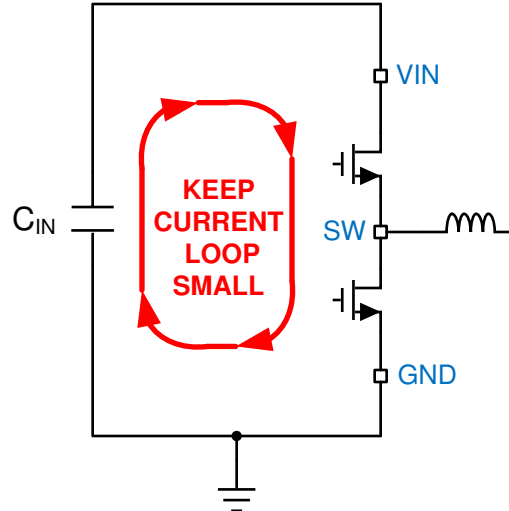
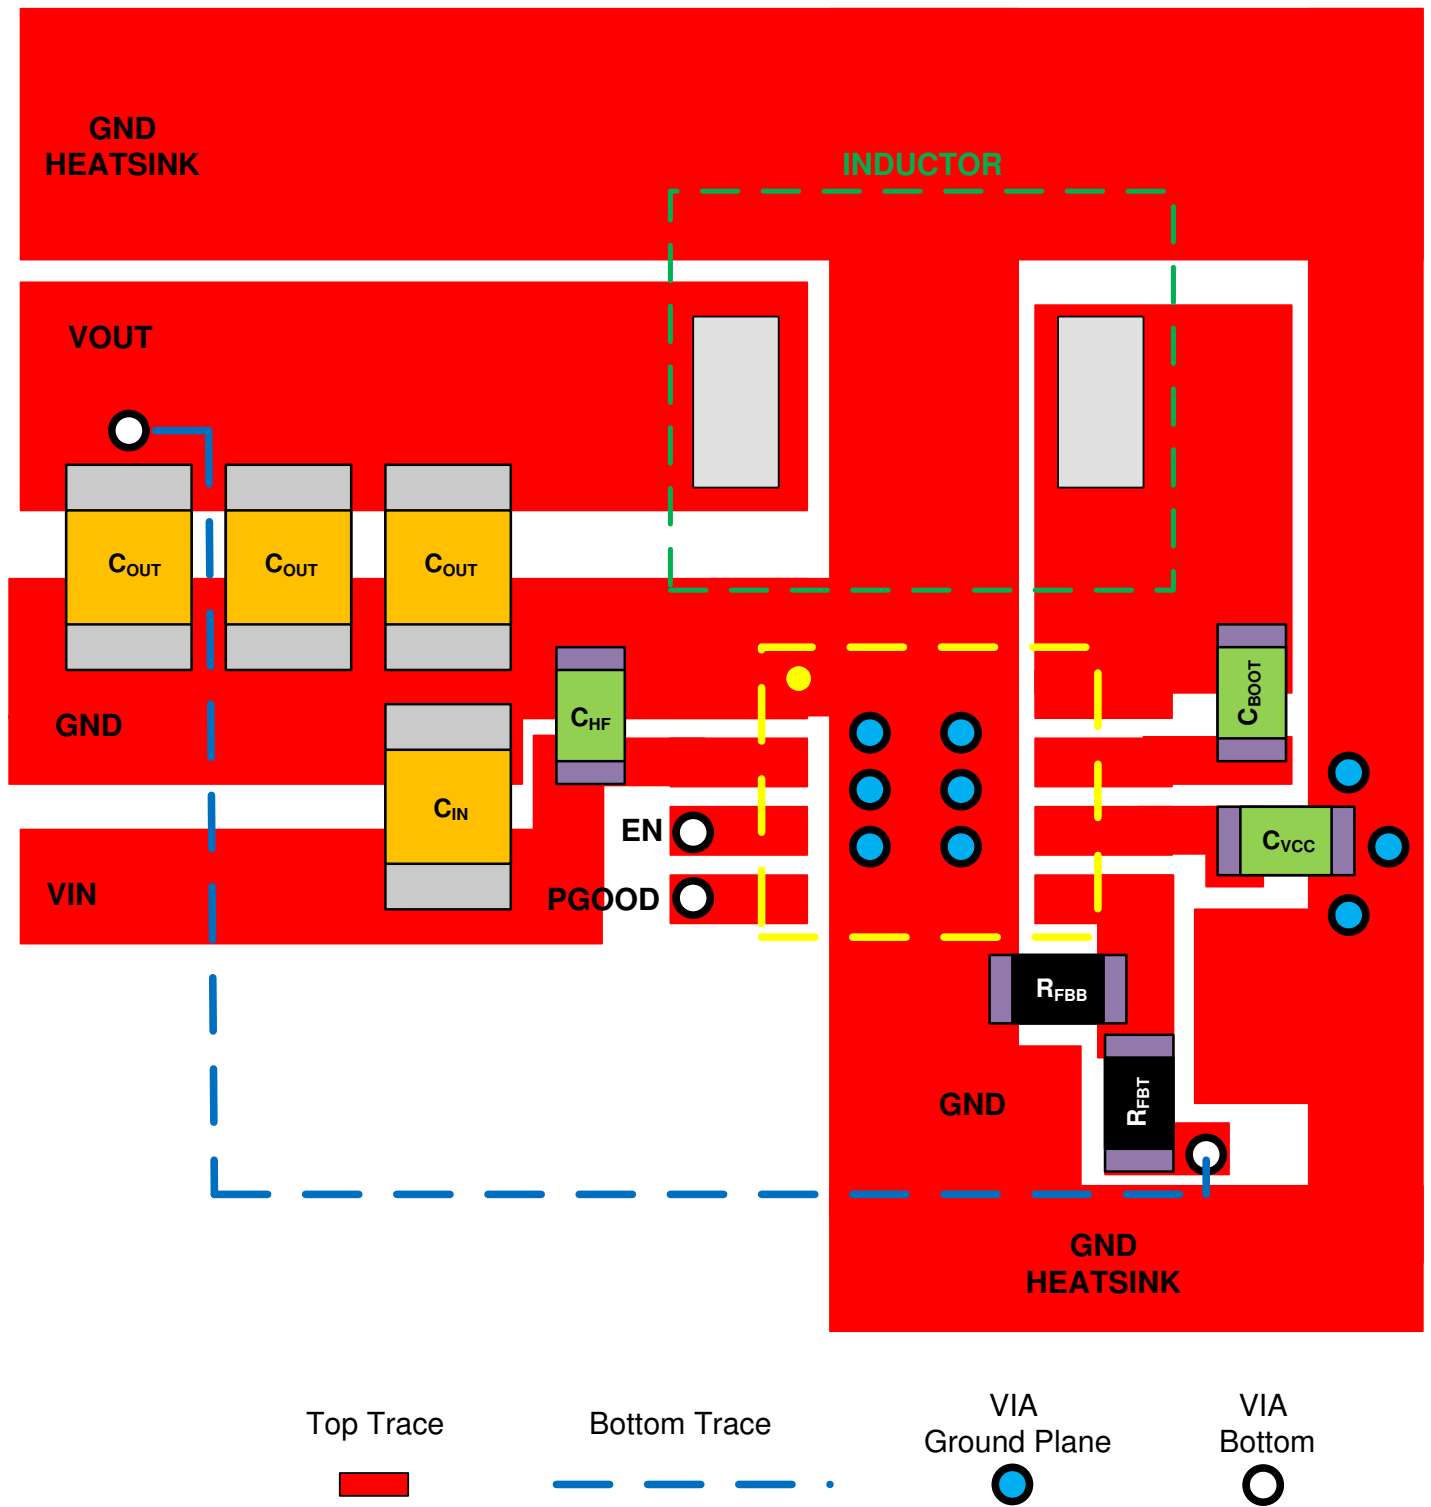
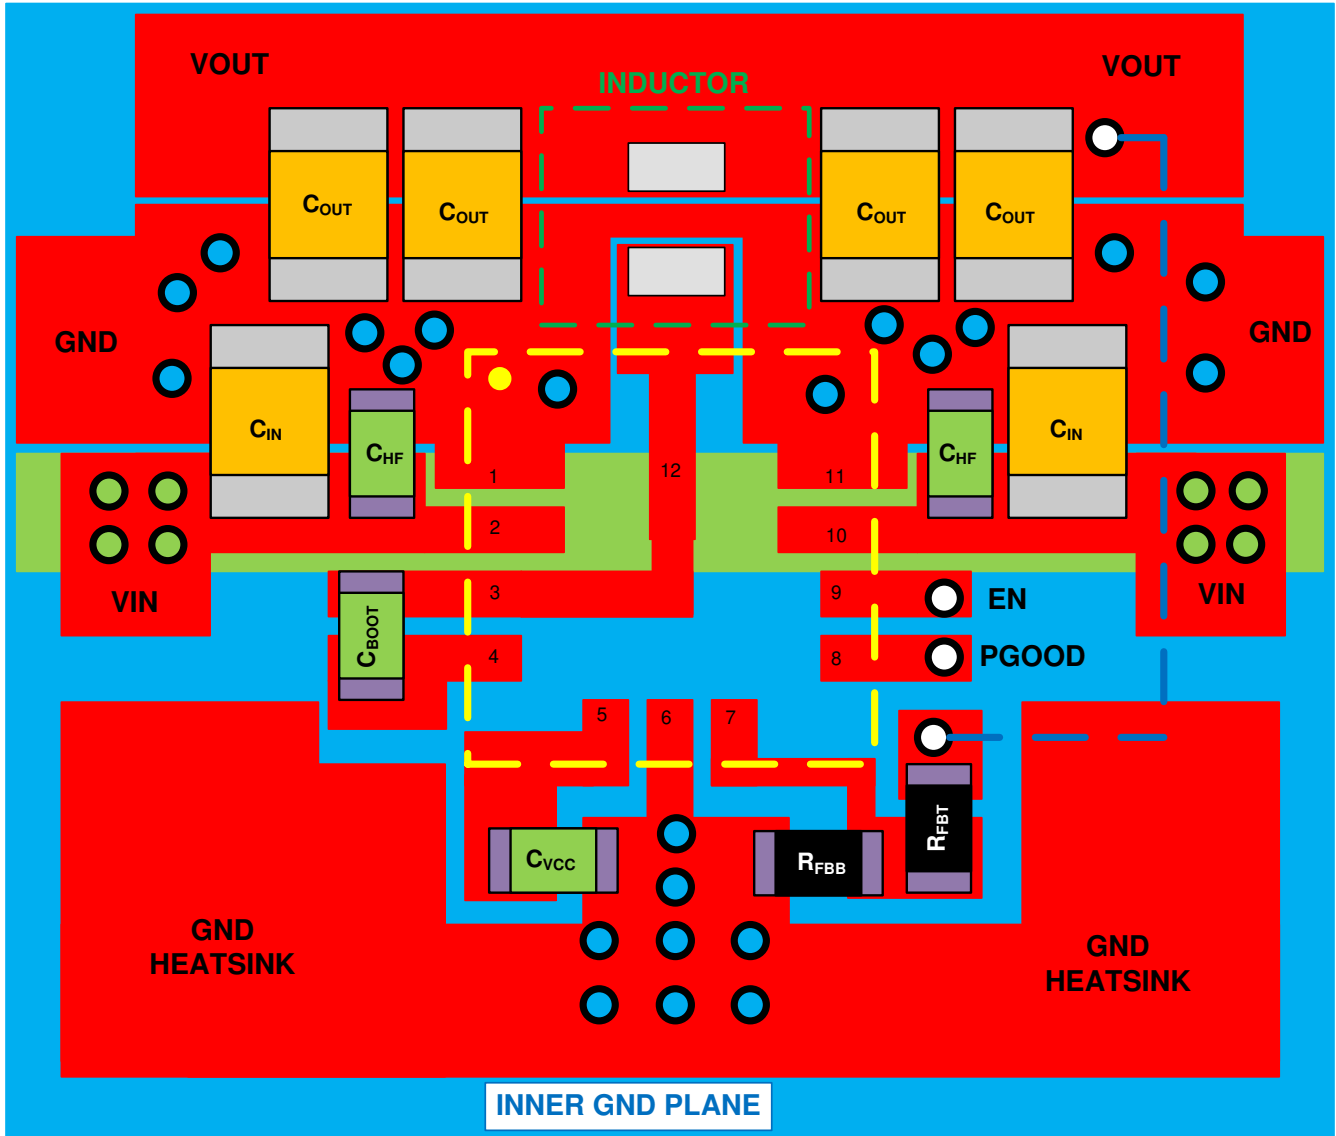

Figure 10-1. Current Loops with Fast Edges
Figure 10-2. Example Layout for HSOIC (DDA) Package
Figure 10-3. Example Layout for VQFN Package
The PCB layout of any DC/DC converter is critical to the optimal performance of the design. Bad PCB layout can disrupt the operation of an otherwise good schematic design. Even if the converter regulates correctly, bad PCB layout can mean the difference between a robust design and one that cannot be mass produced. Furthermore, the EMI performance of the regulator is dependent on the PCB layout, to a great extent. In a buck converter, the most critical PCB feature is the loop formed by the input capacitor or input capacitors, and power ground, as shown in Figure 10-1. This loop carries large transient currents that can cause large transient voltages when reacting with the trace inductance. These unwanted transient voltages will disrupt the proper operation of the converter. Because of this, the traces in this loop must be wide and short, and the loop area as small as possible to reduce the parasitic inductance. Figure 10-2 and Figure 10-3 show recommended layouts for the critical components of the LMR33630.
1. **Place the input capacitor or capacitors as close as possible to the VIN and GND terminals.** VIN and GND pins are adjacent, simplifying the input capacitor placement. With the VQFN package there are two VIN/PGND pairs on either side of the package. This provides for a symmetrical layout and helps minimize switching noise and EMI generation. A wide VIN plane must be used on a lower layer to connect both of the VIN pairs together to the input supply; see Figure 10-3.